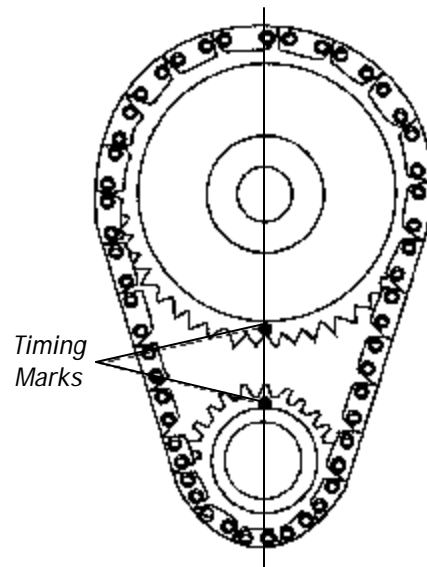

Figure 2 - Timing Chain Sprocket Alignment.
3. Install camshaft with timing marks lined up as recommended by factory specifications. See Figure 2. *NOTE: Install new seal between oil pan and front cover if old seal is damaged after removal. Use RTV silicone sealant on seal to ensure proper seal to pan.*